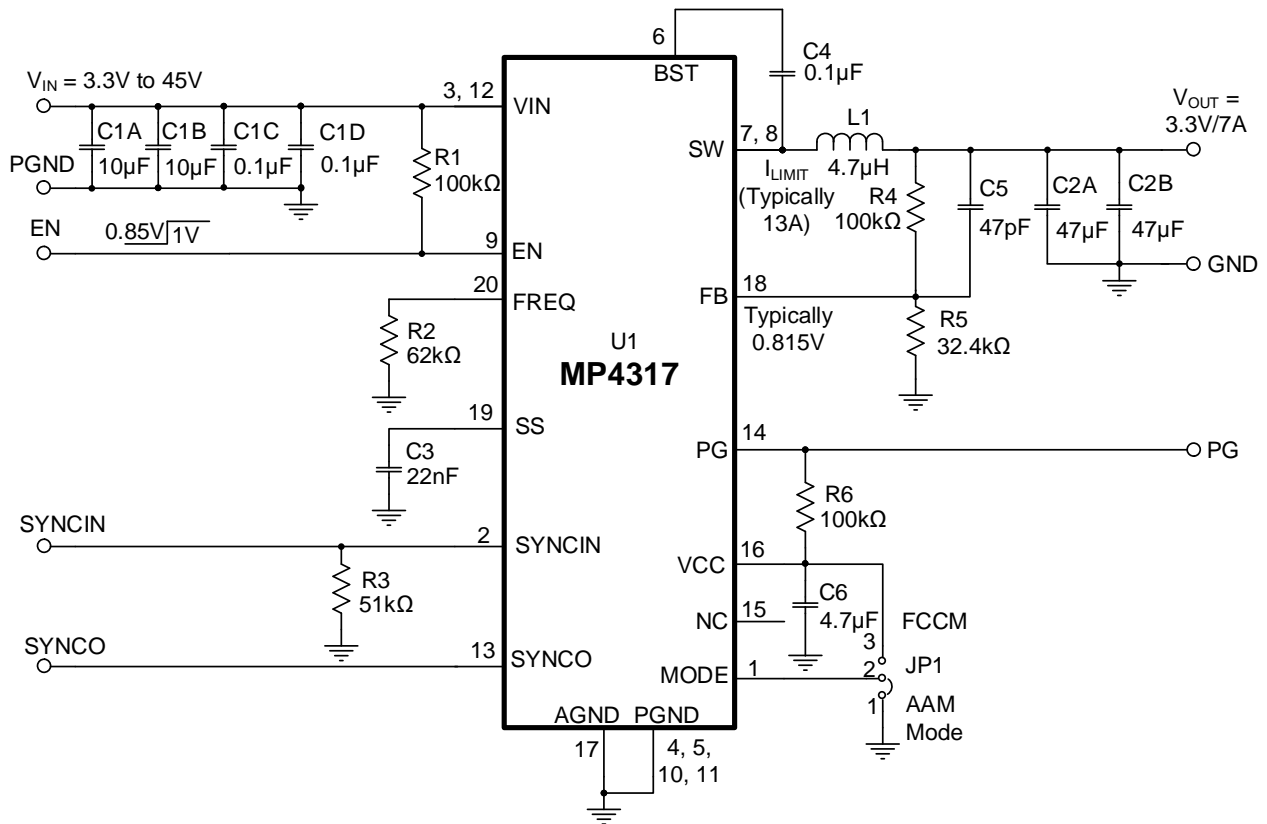

Figure 10: Typical Application Circuit ($V_{OUT} = 3.3V$, $f_{sw} = 470kHz$)
- 10) The recommended PCB layout is based on Figure 10 on page 34.